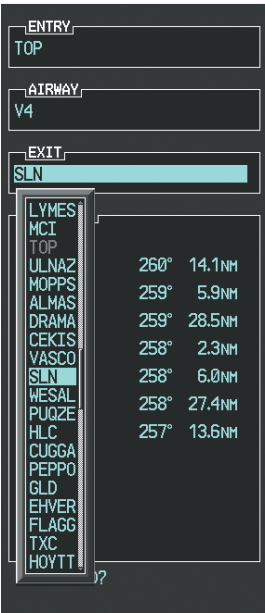

Figure 5-111 List of Available Exits for V4
h) Press the **ENT** Key. The list of available exits for V4 is now displayed as in Figure 5-111.
- i) If necessary, turn either **FMS** Knob to select the desired exit. In this case Salina VOR (SLN) is selected as in Figure 5-111.